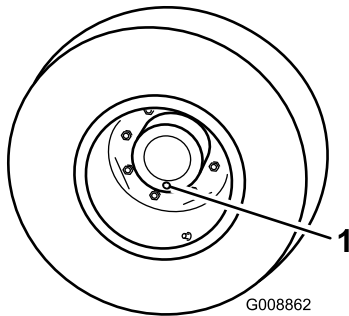

Figure 105
- With the machine on a level surface, position a wheel so a check plug is at the lowest (6 o'clock) position (Figure 105).